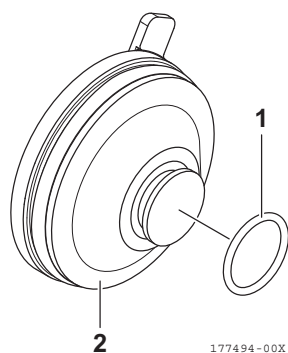

Figure 14
5. Remove the O-ring (1, **Figure 14**) from the cover assembly (2, **Figure 14**).